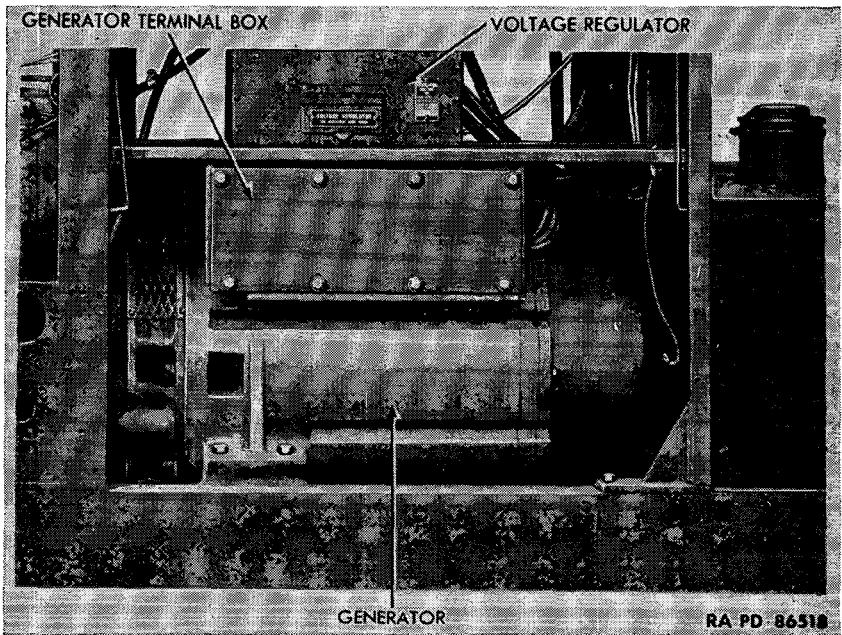

Figure 79.2—Generator M3 Installed—Left Side
90.2. GENERATOR M3 DESCRIPTION (figs. 79.2 and 79.3).